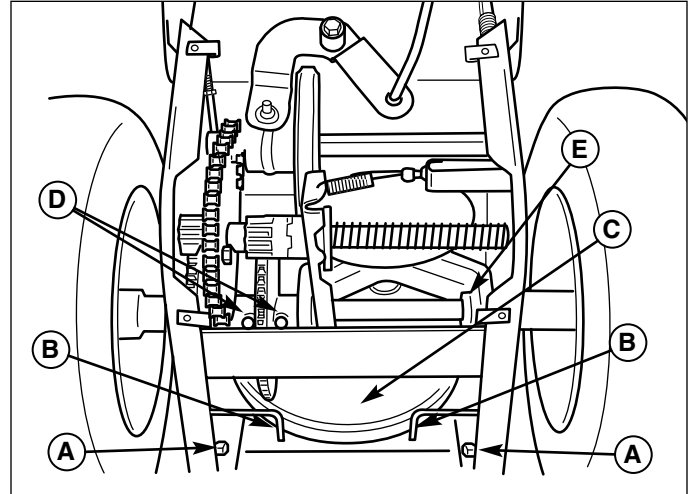

**Figure 28. Belts and Pulleys**
3. Move the belt guides (B, Figure 28) by loosening the two capscrews (A).
- a. Slip the auger drive belt (D, Figure 28) from the idler pulley by pushing it away from the pulley and then toward the rear.
- a. Pull the idler pulley (I, Figure 28) away from the belt and slip the belt from the pulley.
- b. Slip the belt off the traction pulley and then the engine pulley. The arm for the front idler pulley (G, Figure 28) may have to be pivoted to provide clearance for removing the belt from the traction pulley.
- c. Pull the belt out between the auger pulley (F, Figure 28) and traction pulley.